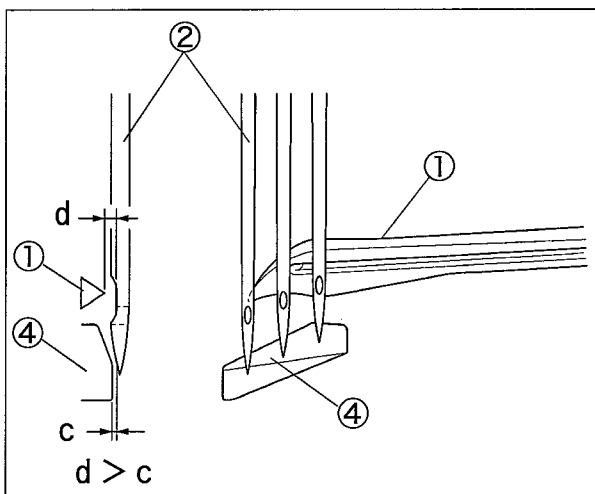

Fig. 58
- (3) When the looper ① tip meets the left needle ②, even if the left needle ② is pushed, the needle guard(rear) ④ holds the left needle ② without touching the looper ① tip. (Fig. 58)